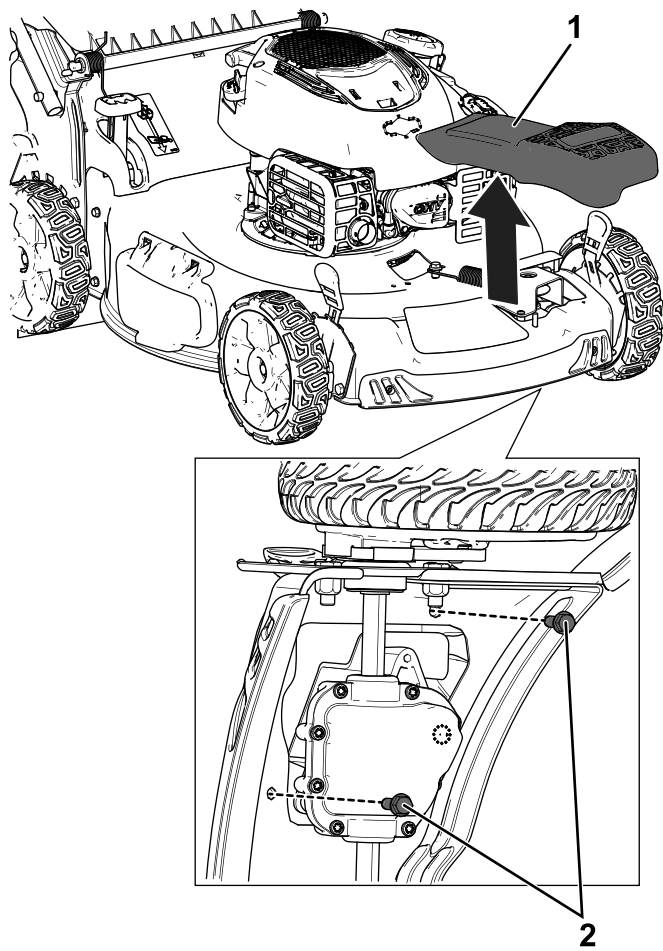

Figure 6
10. Remove and discard the front belt cover; retain the corresponding bolts (Figure 6).